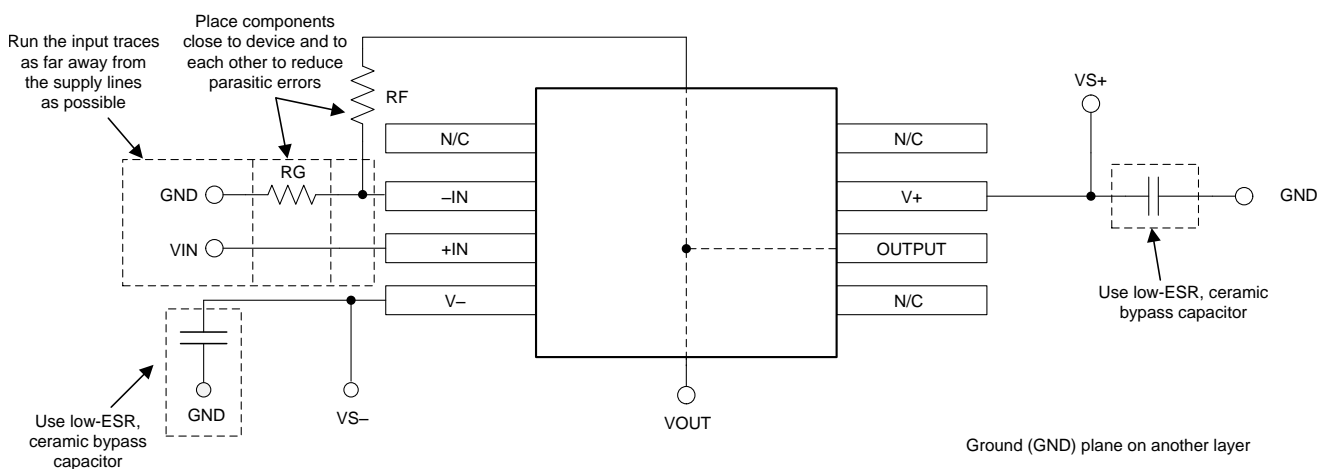

Figure 44. Operational Amplifier Board Layout for Noninverting Configuration
- Place the external components as close to the device as possible. Keeping RF and RG close to the inverting input minimizes parasitic capacitance, as shown in Figure 44.